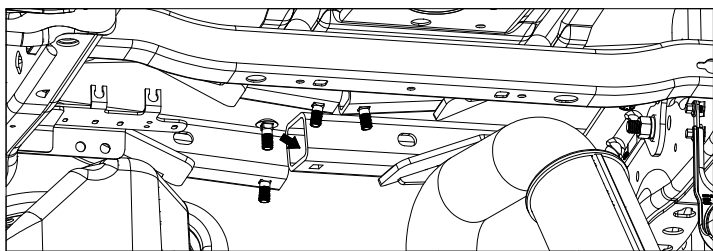

Figure C3: View looking up under the bed.
- Place carriage bolts into cross members.** Move the cross members so that the open end of the tube is accessible. Place a 1/2" carriage bolt into each of the four cross members, as shown in Figure C3.